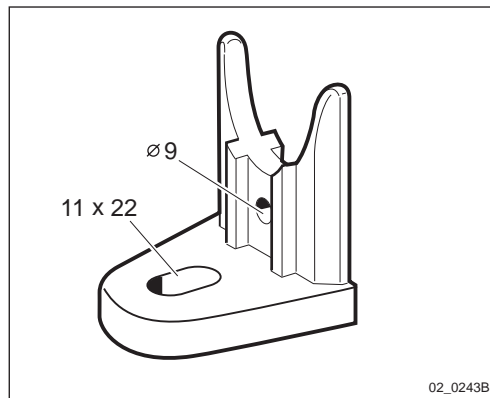

Figure 2 End Support SXA 120 9998
1. Measure and mark where the End Support SXA 105 9998 (pos 6), see figure 2, will be placed on the building.
2. Install the end support with the Set of Materials NTM 201 257 (plug and screw, pos 12).